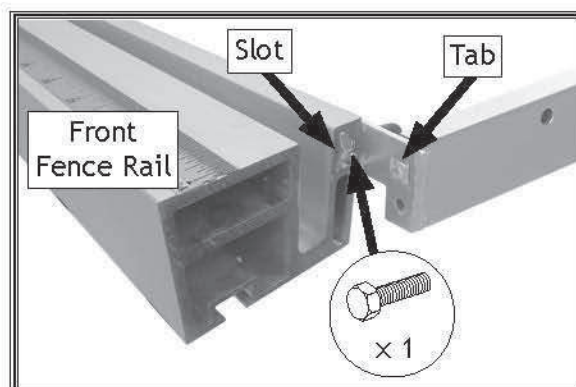

Figure 32. Attaching front end of fence rail brace.
29. Insert (1) M8-1.25 \times 16 hex bolt into front end of fence rail brace, then slide hex head and tab of brace into slot in front fence rail (see Figure 32). Tighten cap screw and hex nut on rear end of fence rail brace.